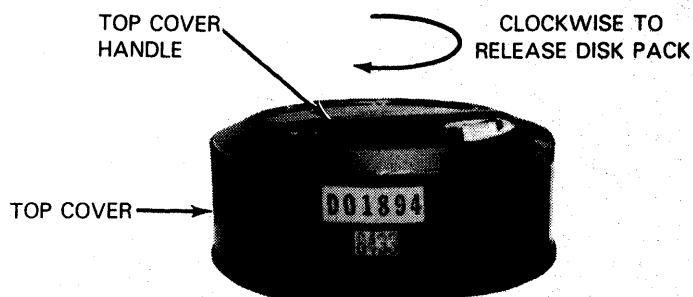

Figure 4-3. Releasing the Disk Pack from the Top Cover
- Turn the disk pack top-cover handle (Figure 4-3) in a clockwise direction until it comes to a full stop. Continue to turn the handle, even though the cover may disengage, to ensure that the full-stop point is reached and that the pack-on switch is closed.